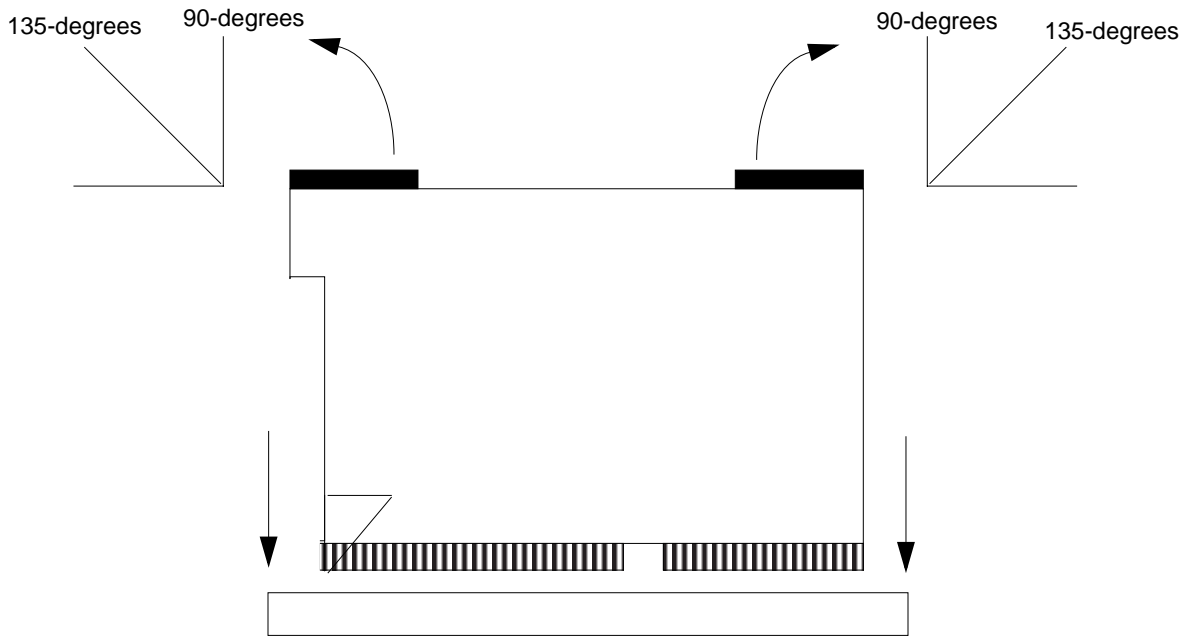

Figure 5-2 Lowering the Module Into the Chassis
4. **On the antistatic surface, hold the module in an upright position so that the plastic surface faces you (Figure 5-2).**
5. **Move the levers on the module to the 135-degree position (Figure 5-2).**
6. **Lower the module along the vertical plastic guides until the module touches the slot socket on the main logic board (Figure 5-2).**